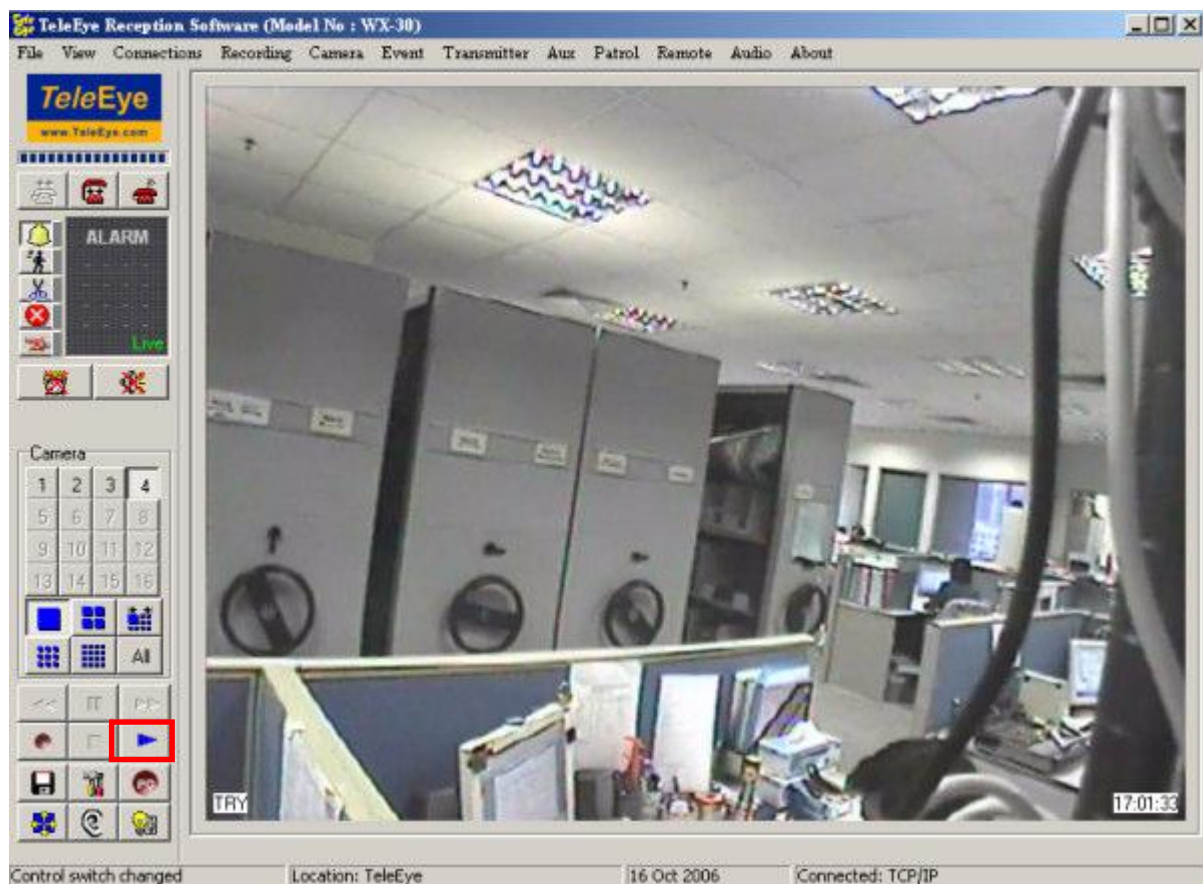

Fig 7.1a
Step 1 : Click [**Playback**]  icon on the main panel as shown on **Fig 7.1a**.